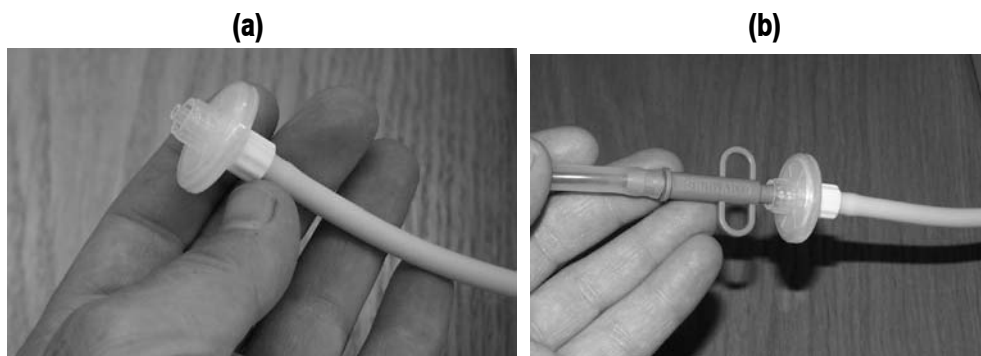

FIGURE 3-4
- 3.7 Referring to Figure 3-4, connect the filter to the irrigation tube Luer lock connector (a), then connect the auxiliary water tube (MAJ-855) to the filter (b) and auxiliary water inlet on the endoscope.